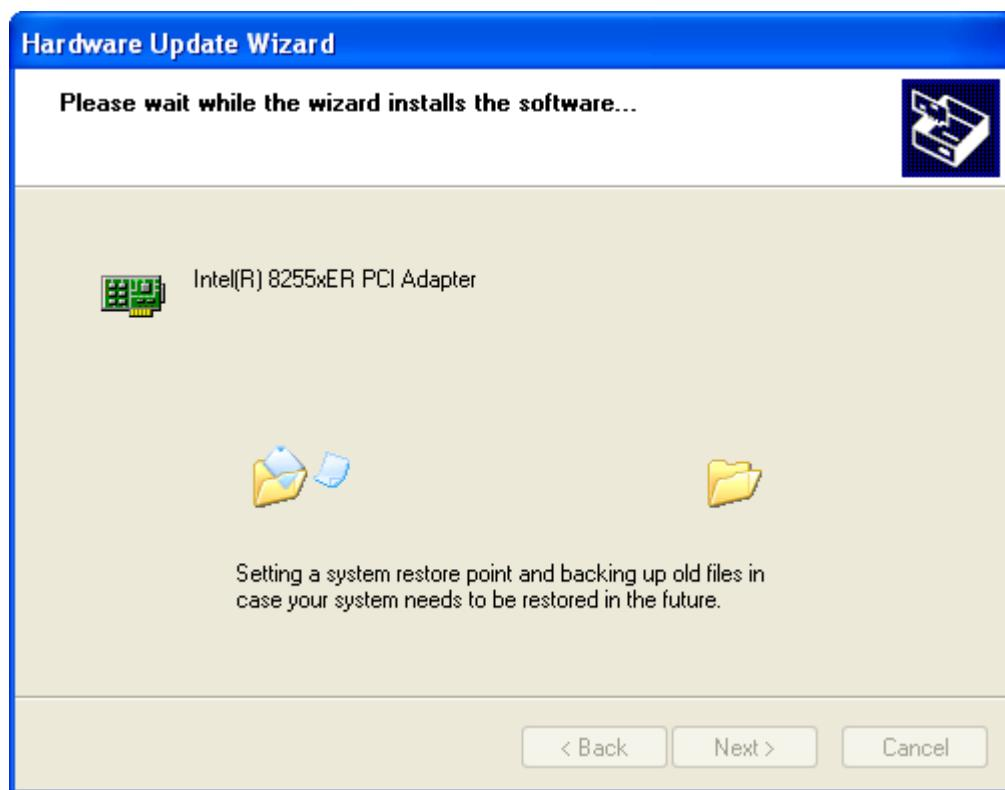

Figure 7-31: Ethernet Driver Installation
Step 56: The Wizard updates the driver. See **Figure 7-31**.